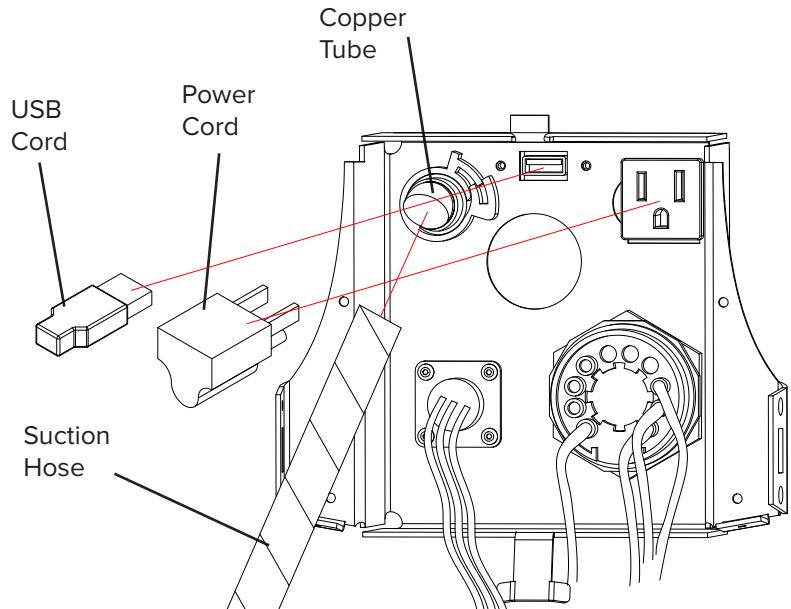

Fig 10.3
1. Refer to Fig 10.3 for connections